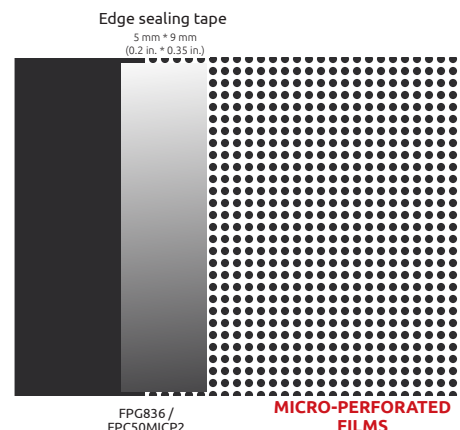

Figure 30
- › Apply the strip by overlapping it 5 mm (0.2 in.) over the window and the rest over the micro-perforated film. (FIG. 30)